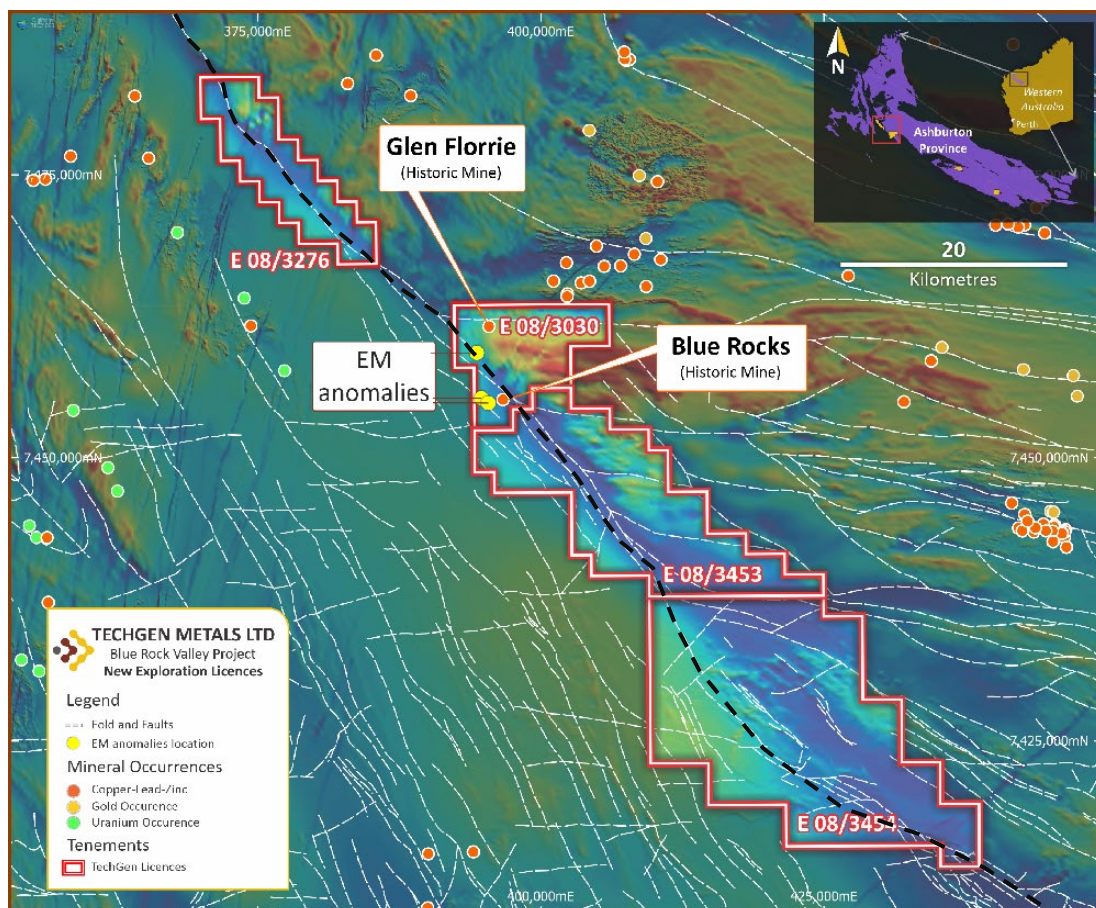

Figure 2: Blue Rock Valley Project area with EM anomalies & mineral occurrences on airborne magnetics.
A reverse circulation (RC) drilling program of 7 holes for 1,153 metres was completed at the Blue Rock Valley Copper Project in November 2021. Eagerly awaited assay results have now been received and confirm the presence of highly anomalous copper in three separate drill holes (Image 1, Table 1, Figures 2 & 3). Two of the drill holes, BRR004 & BRR005, both returned assays of greater than 1% Cu from shallow depths. Best results include 4m @ 1.02% Cu from 0 - 4m (BRR005) and 8m @ 0.54% Cu from 6m - 14m (BRR004). Anomalous copper assays correlate well with intervals of copper carbonates (malachite ± azurite) logged on site during drilling.